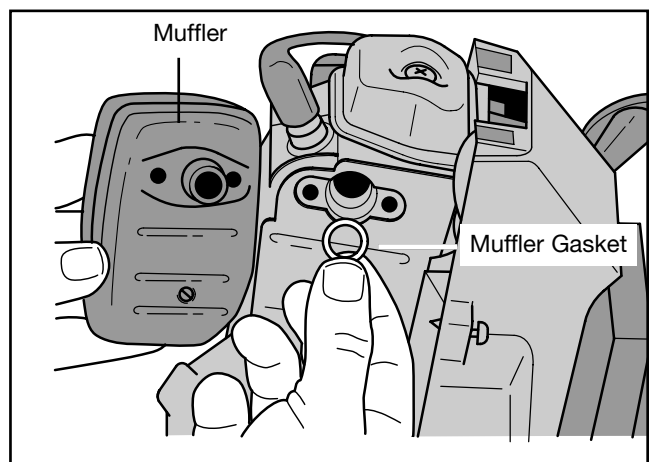

Fig. 43
2. Remove the muffler and muffler gasket. Discard the old gasket (Fig. 43).